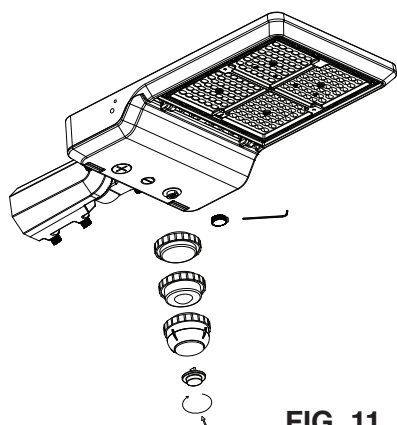

**FIG. 10**
1. For models with either a 3-pin or 7-pin NEMA twist-lock receptacle installed, either a shorting cap or sensor (such as a photocell) needs to be installed on the receptacle (see **Fig. 10**).